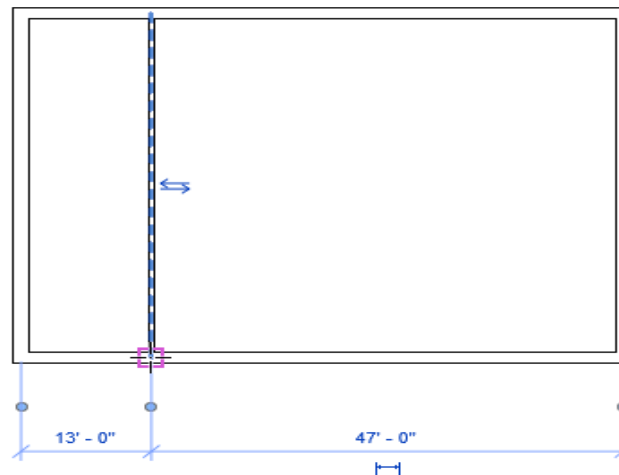

Figure 3-82 Straight wall created till the lower exterior wall
2. Press SHIFT and move the cursor downward. You will notice that the cursor moves parallel to the vertical axis while moving it downward. Click near the lower external wall, as shown in Figure 3-82 when the **Vertical and Nearest** symbol appears.